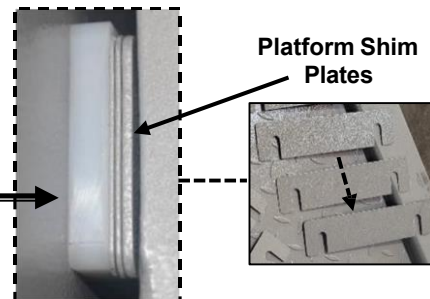

Fig. 18
- Loosen the mount bolts for the **nylon 'rub block' board** to add the preferred platform shim(s) between the platform & 'rub block' board to adjust the platform's deflection angle height. **Fig. 18.**